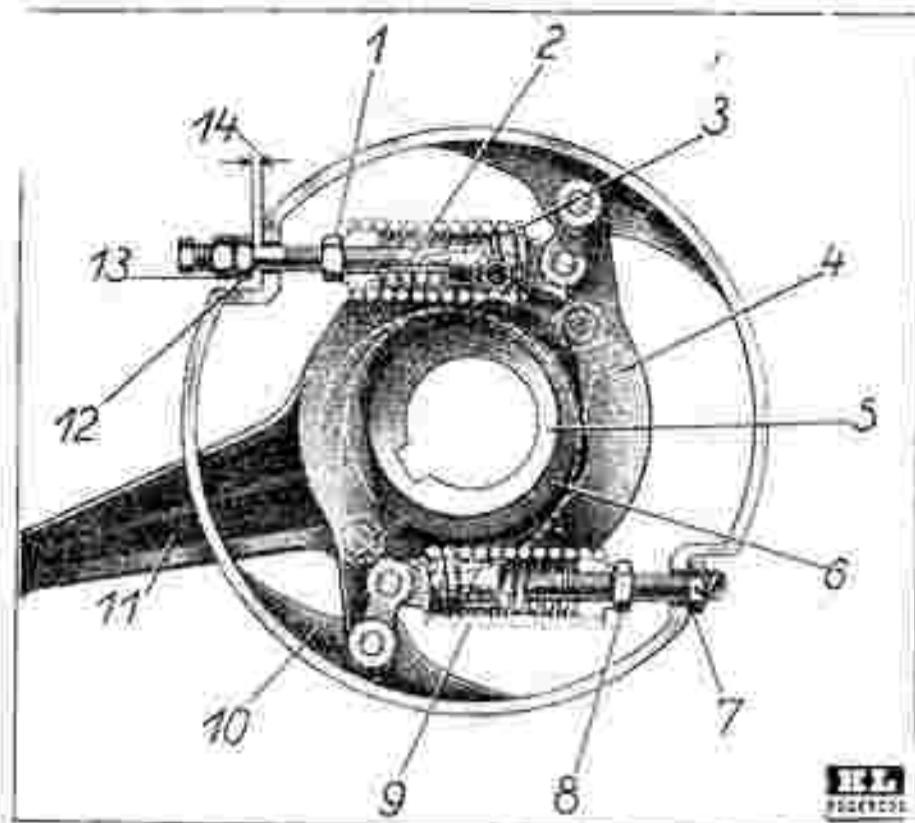

Fig. 36. Governor.
GOVERNOR & FUEL LEVER SETTINGS - The two speed governor, Fig. 36, acting with the fuel lever settings, is mounted on the left hand flywheel and crankshaft, and keeps the two engine speeds, i.e., the idling speed
of 350 r.p.m. and the normal speed of 600 r.p.m., approximately, constant under all normal load conditions, providing the fuel lever is correctly set. With fuel lever on mark (1), Fig. 35, only spring (9) Fig. 36, is active, and the speed is limited to 350 r.p.m. When the fuel lever is advanced beyond mark (2), spring (3) is brought into action, and the combined action of both springs keeps the engine speed nearly constant at 600 r.p.m.